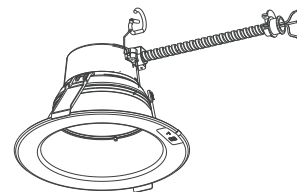

Figure 4-2
2. Attach the test indicator to the fixture surface using the included double-sided sticker (refer to Figure 4-2).